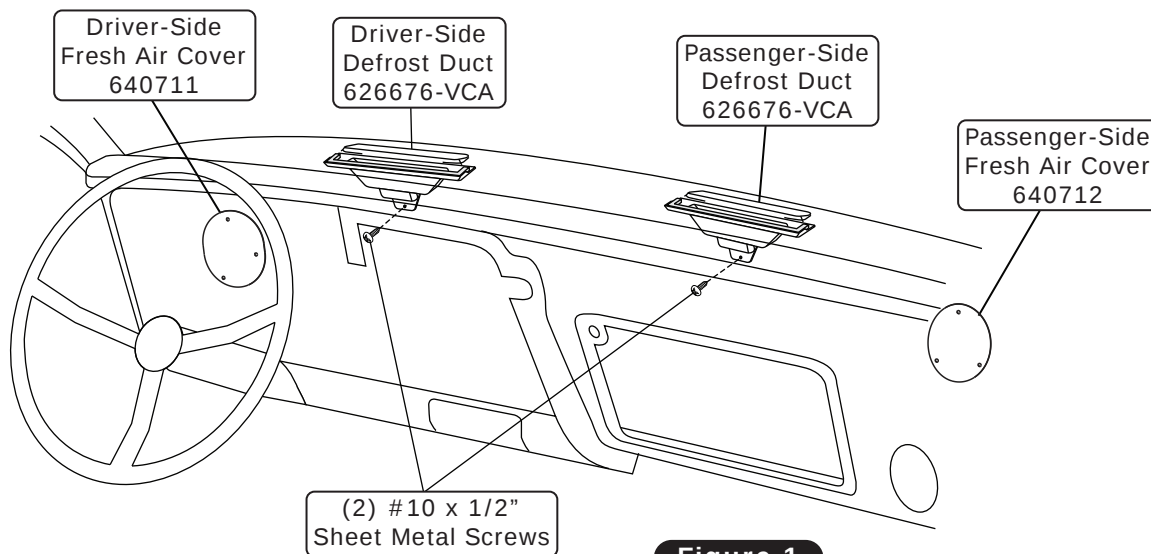

Figure 1
2. If vehicle is equipped with astro ventilation, install the driver and passenger-side fresh air covers. Apply a bead of silicone to the mating surfaces of the covers and secure using OEM hardware (See Figure 1, below).